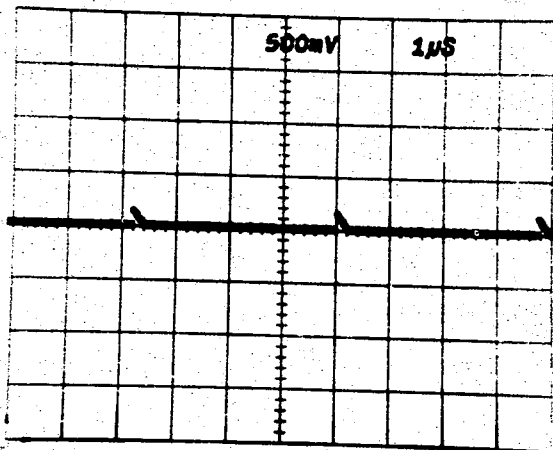

Fig. 7-6. Three 10 ms Markers Per Scan.
- Rotate the SCAN control counterclockwise slowly. Notice that the time markers will slow down, stop drifting in one direction, then start drifting in the other direction. The first point at which the time markers stop drifting and change direction must display three time markers (see Fig. 7-6) for the maximum scan rate to be between 25 and 40 hertz. If there are more or less than three time markers at this point, the adjustment of R381 is required.